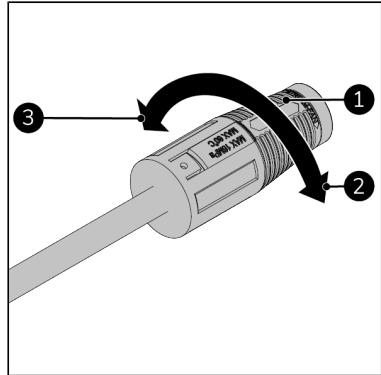

Figure 36.
3. Rotate the head of the nozzle (Figure 36, pos. 1) to change the jet angle:
- for a smaller (more powerful jet) turn it clockwise (Figure 36, pos. 2).
- for a bigger (less powerful jet) turn it anti-clockwise (Figure 36, pos. 3).